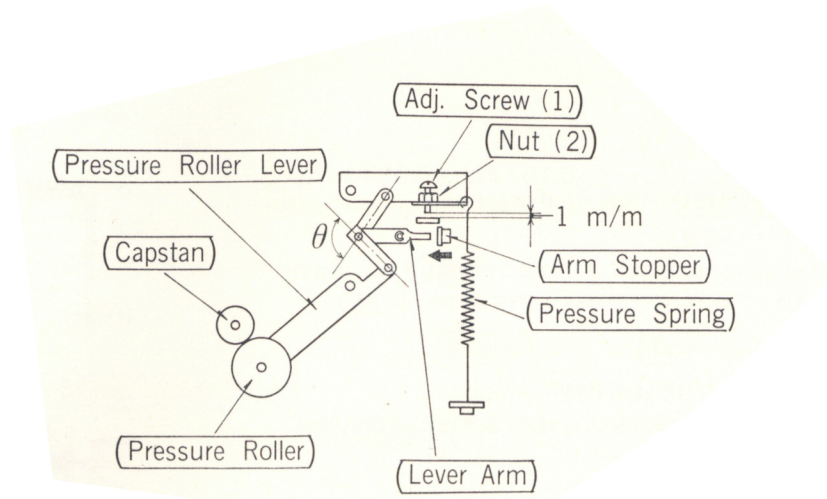

Fig. 23
- (A) With the plunger rod depressed entirely into the coil, adjust the gap as shown in Fig. 23 below to approx. 0.03937 inch (1 mm) by turning screw (1) and fix it with the nut (2). Also confirm that the angle θ is less than 180° . If the angle θ is over 180° bend the arm stopper in the direction of arrow and push out the lever arm.